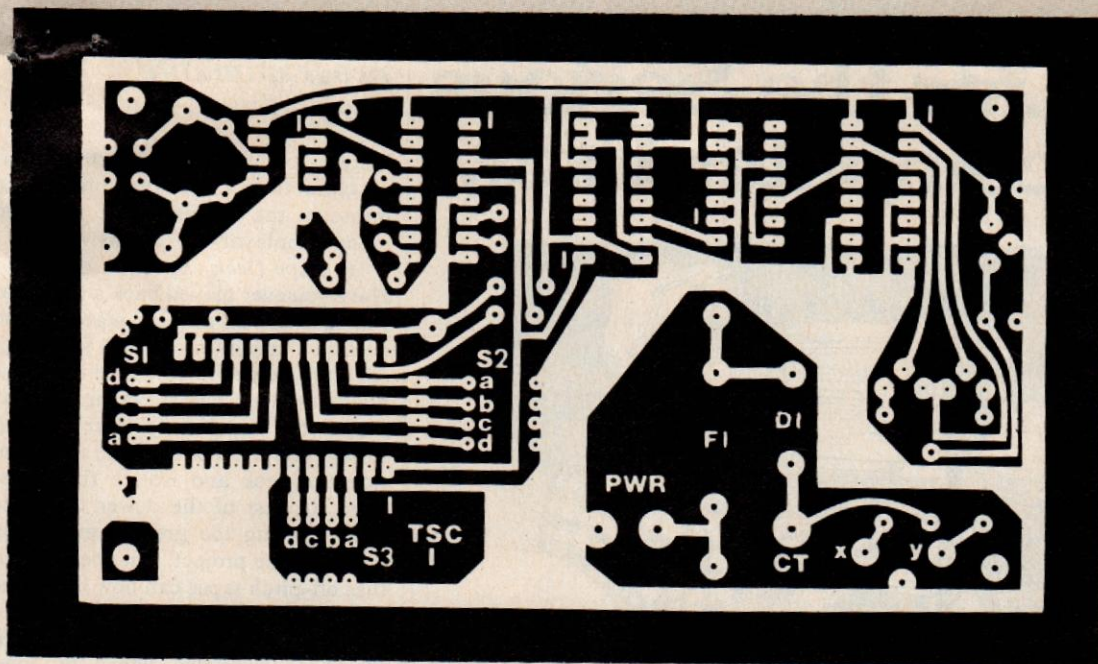
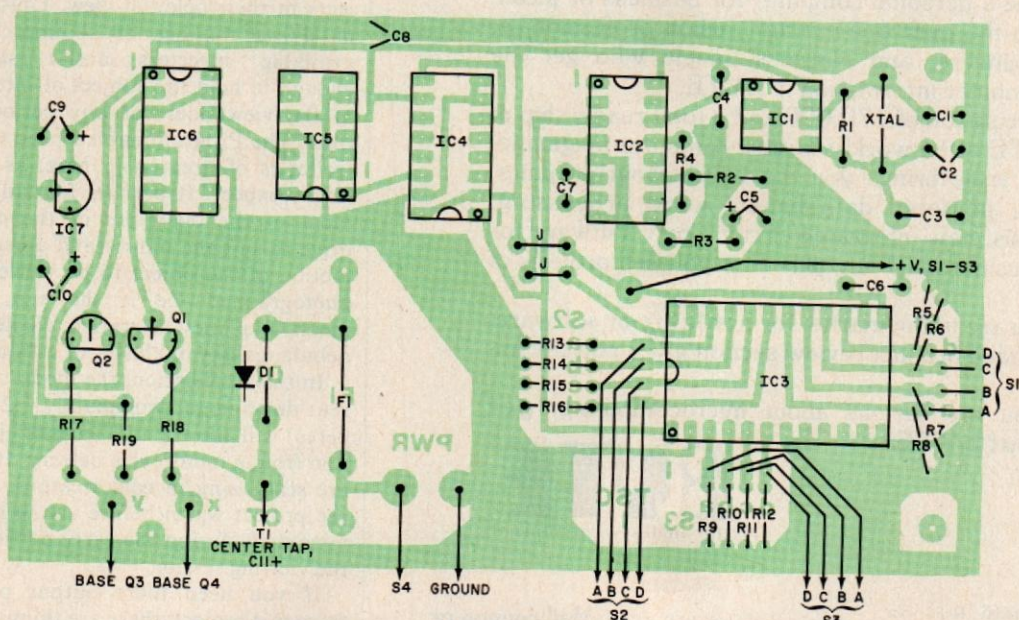

Fig. 4. Etching and drilling guide for a printed-circuit board for the project.
Fig. 5. Use this guide to assemble the components on the printed-circuit board.
**Construction.** Fashion a printed-circuit board using Fig. 4 as a guide. Referring to the component-placement guide in Fig. 5, install IC sockets or Molex Soldercons at locations *IC1* through *IC6* and add the two bare-wire jumpers between locations *IC2* and *R13*. Next, install the on-board capacitors, observing polarity